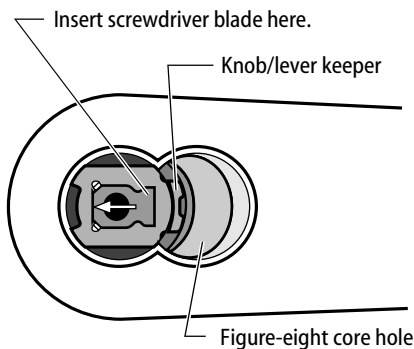

Figure 5
- 4 Press the screwdriver blade in the direction of the arrow in Figure 5.